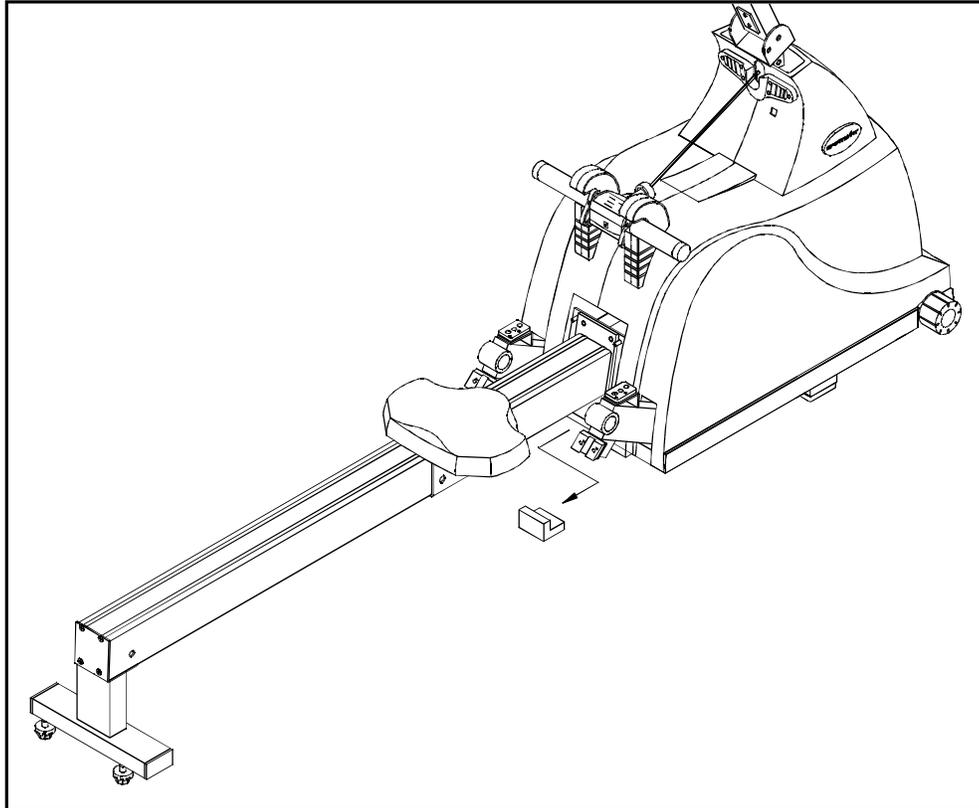

FIG.3
3. Remove the wooden block placed in position in step 1 (see Fig. 3).